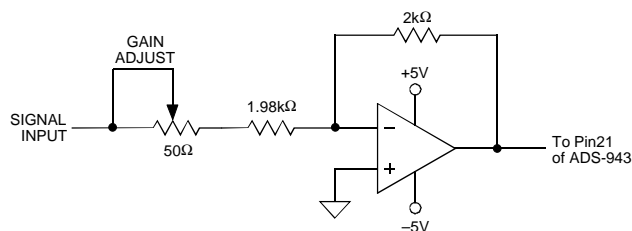

Figure 2. Optional ADS-943 Gain Adjust Calibration Circuit
- The ADS-943 achieves its specified accuracies without the need for external calibration. If required, the device's small initial offset and gain errors can be reduced to zero using the adjustment circuitry shown in Figures 2 and 3.
Any offset and/or gain calibration procedures should not be implemented until devices are fully warmed up. To avoid interaction, offset must be adjusted before gain. The ranges of adjustment for the circuits in Figures 2 and 3 are guaranteed to compensate for the ADS-943's initial accuracy errors and may not be able to compensate for additional system errors.